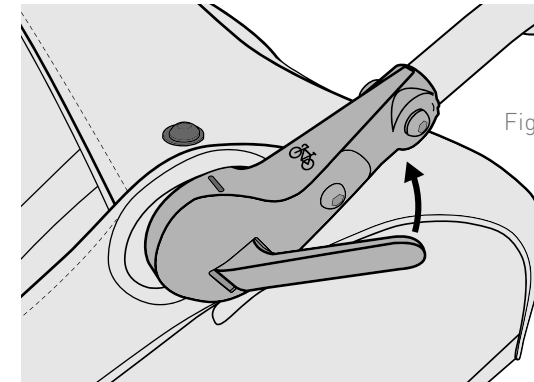

Figure 20
1. **Tow mode:** Always rotate the handlebar forward when trailer is in towing mode (Figure 19A). The handlebar should be horizontal and parallel to the ground, such that the mark on the handlebar is aligned with the bolt that attaches the cover (Figure 20).
2. **Stroll / Jog mode:** The handlebar may be rotated to serve as a handlebar while trailer is in strolling or jogging mode (Figure 19B). Open lever to rotate (Figure 20) and close lever to lock in place.